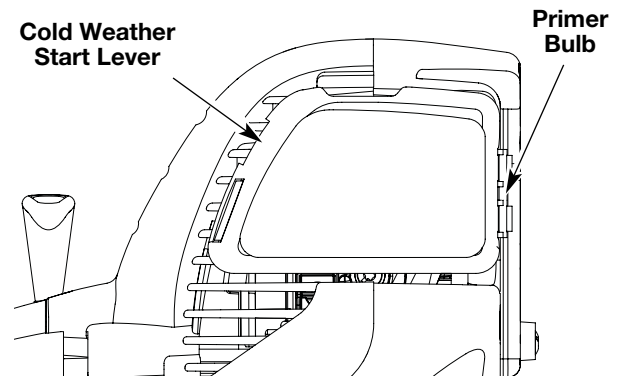

Fig. 12
3. Fully press and release the primer bulb 10 times, slowly. Some amount of **fuel should be visible in the primer bulb** and fuel lines (Fig. 12). If you can't see fuel in the bulb, press and release the bulb as many times as it takes before you can see fuel in it.